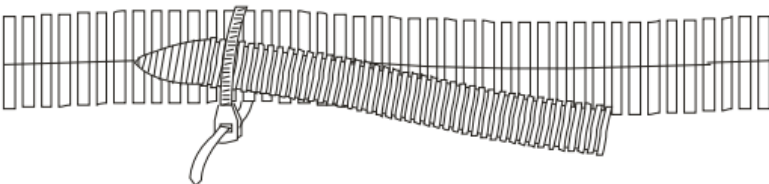

Figure 50 – Splicing into key switched power
- Put the wires back into the OEM loom and wrap with electrical tape. Use 1/4 in wire loom to cover the red interface cable wire (Figure 50).